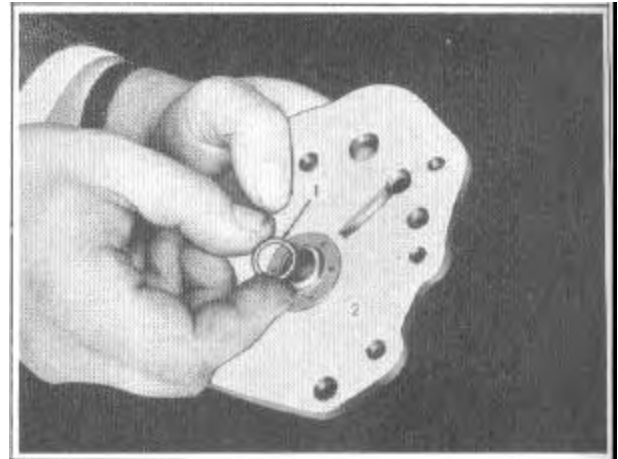

FIGURE 76
2. Lubricate the new "O" ring seal with Automatic Transmission Fluid and install the seal in the groove of the cylinder plate, Figure 76.